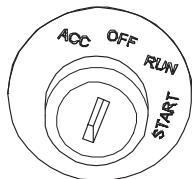

Figure 4 Ignition
3. Turn the key switch clockwise to the START position in order to engage the starting motor and crank the engine (see Figure 4).